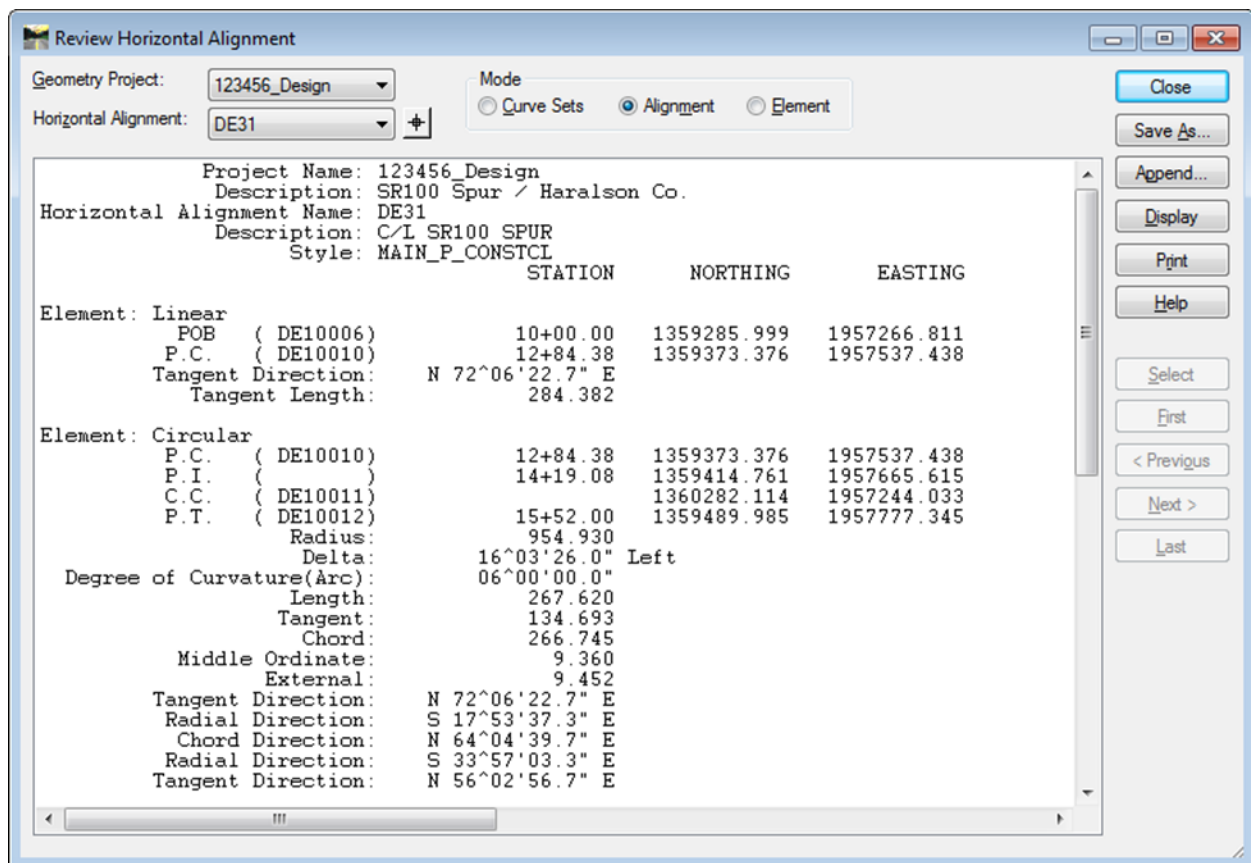

Figure 3-1 Review Horizontal Alignment
- The user may also print the description by using the Print button on the **Review Horizontal Alignment** dialog. (See *Figure 3-1*).